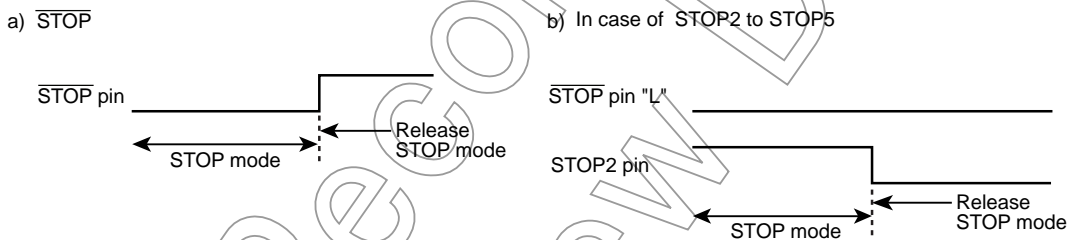

Figure 13-3 Priority of STOP pin and STOP2 to STOP5 pins
- Note 6: When the STOP mode is released by STOP2 to STOP5 pins, the level of STOP pin should hold "L" level (Figure 13-3).